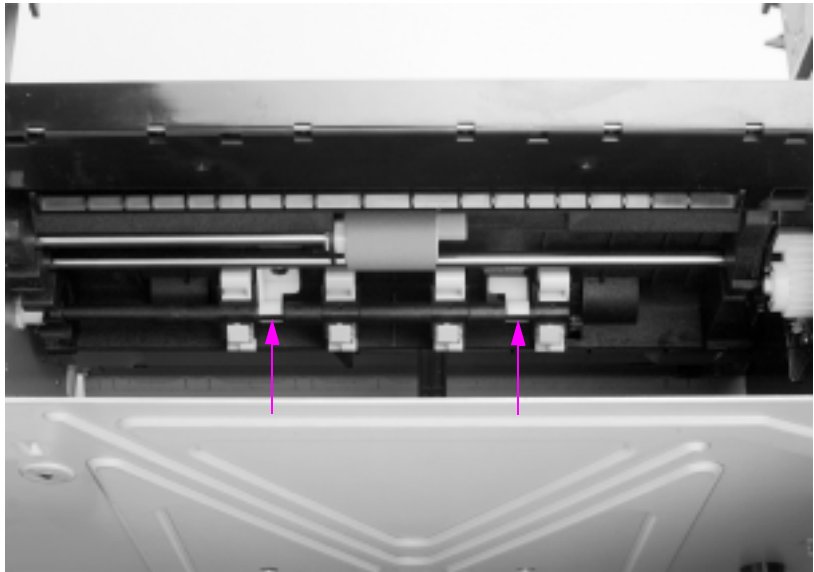

Figure 6-64
- 2 Pull the paper pick roller shaft down until it releases from the two plastic clips shown in Figure 6-64.